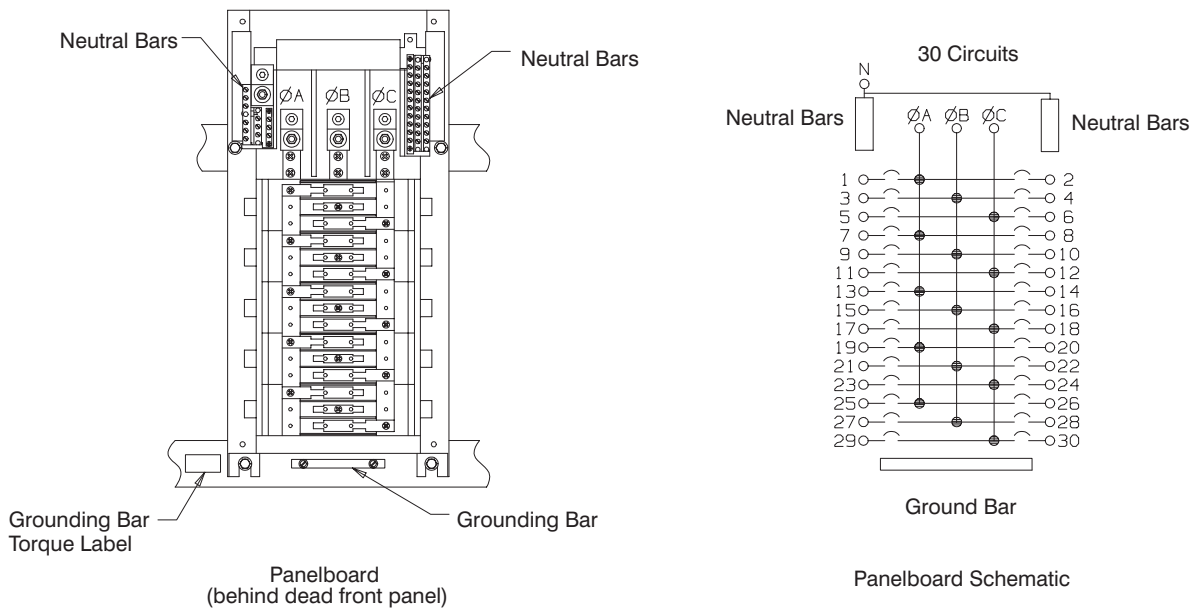

Figure 24. Panelboard and Panelboard Schematic
4. If you have the PDM option, then install the output breakers into panelboard (see Figure 24).